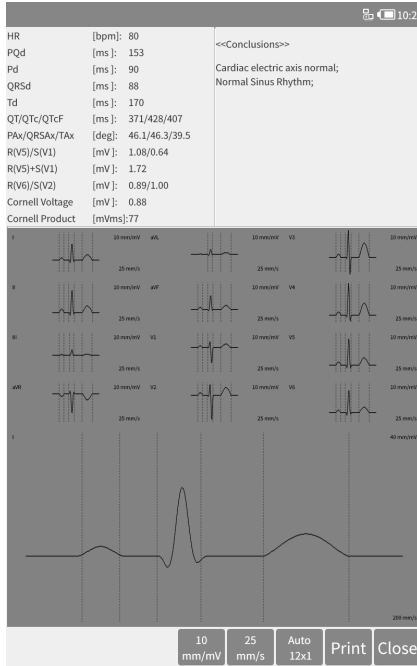

Figure 7-7 Diagnosis interface
- Report: displays data information and diagnosis result of the case, as shown in Figure 7-7.